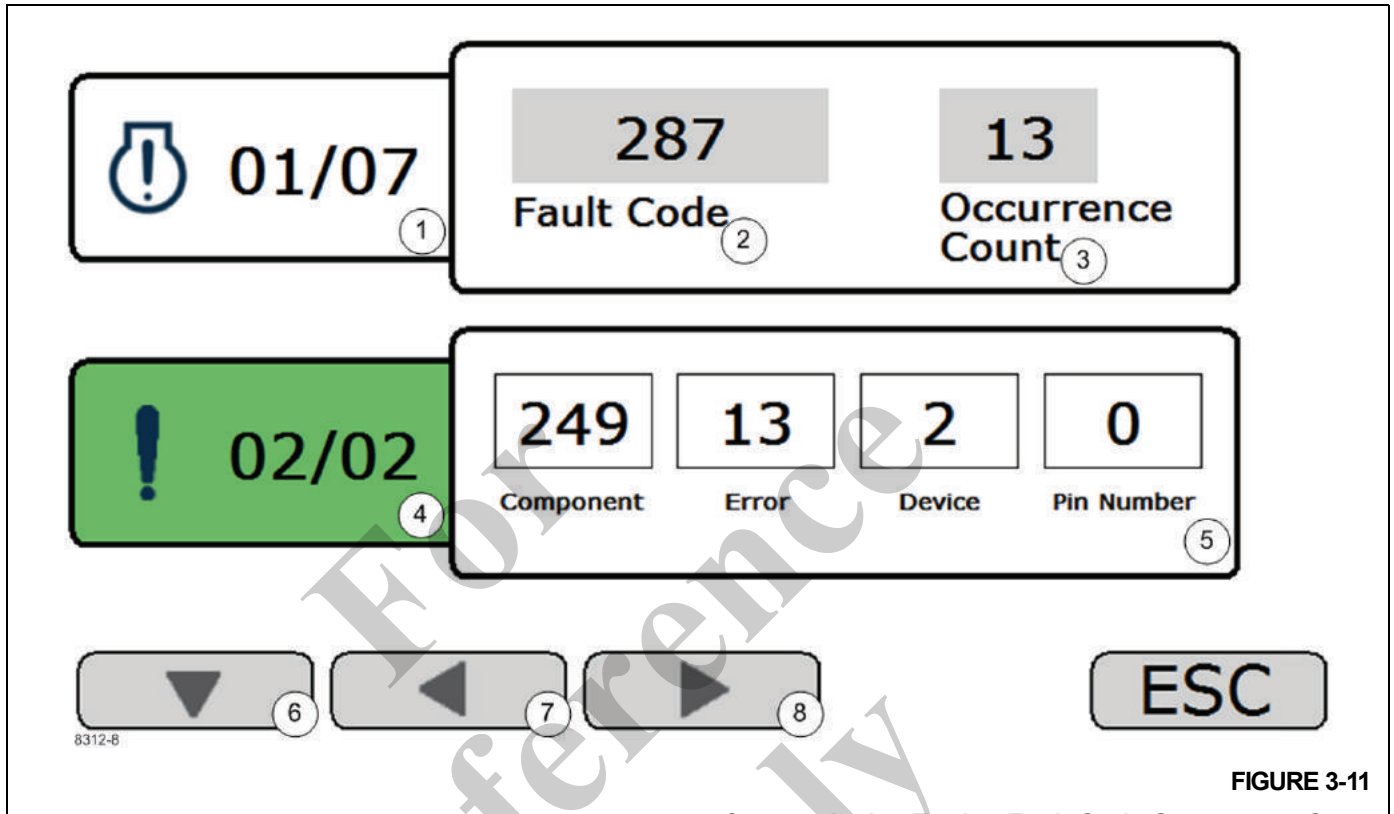

FIGURE 3-11
Faults Screen (Figure 3-11)
Active Engine Fault (1) (Figure 3-11)